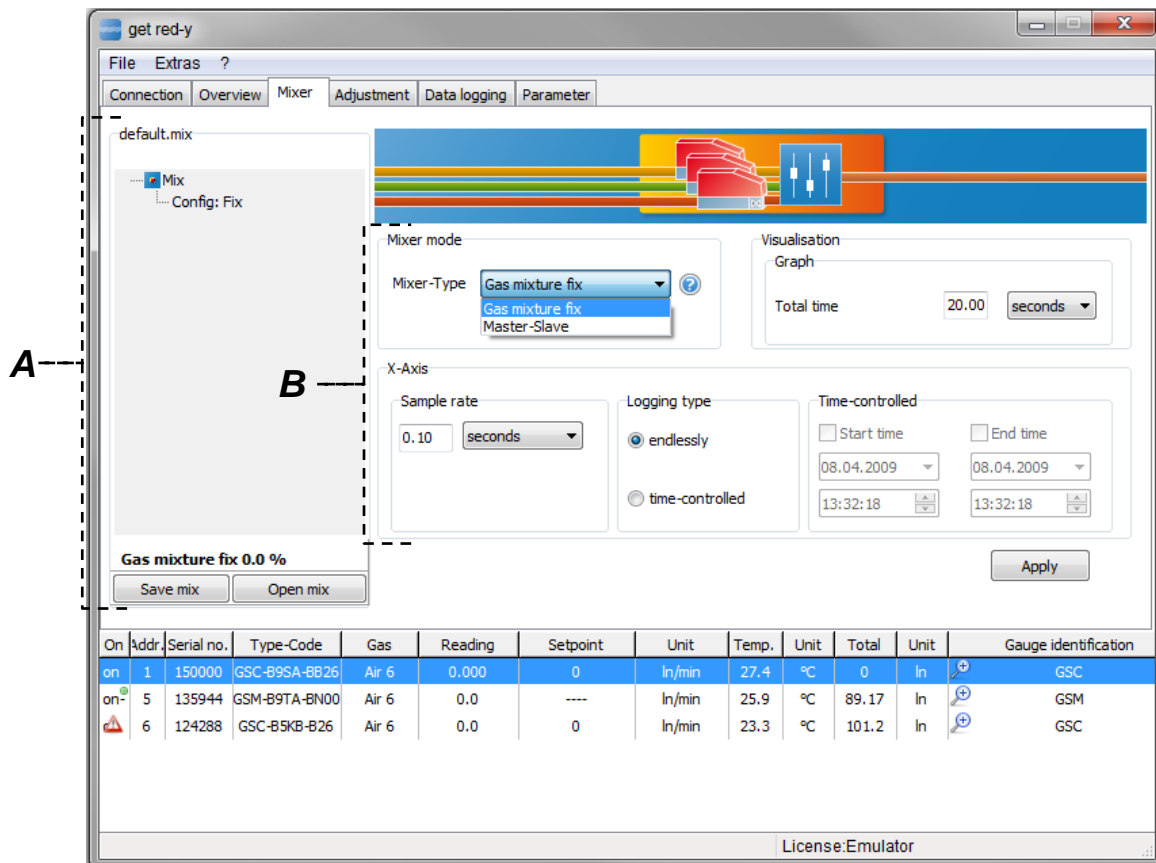

Figure 46.: Representation of the Mixer Tab
- A. Projection tree of the mixer:** The projection tree is the central administration center for the mixer. A correctly configured mixture of gas percentages can be saved with the [Save mix] and [Open mix] buttons and opened again later. Keep in mind that the saved device configuration is also present in the Device List when you are opening a mix. If you select Configuration node, View **B** appears (See Figure 46).